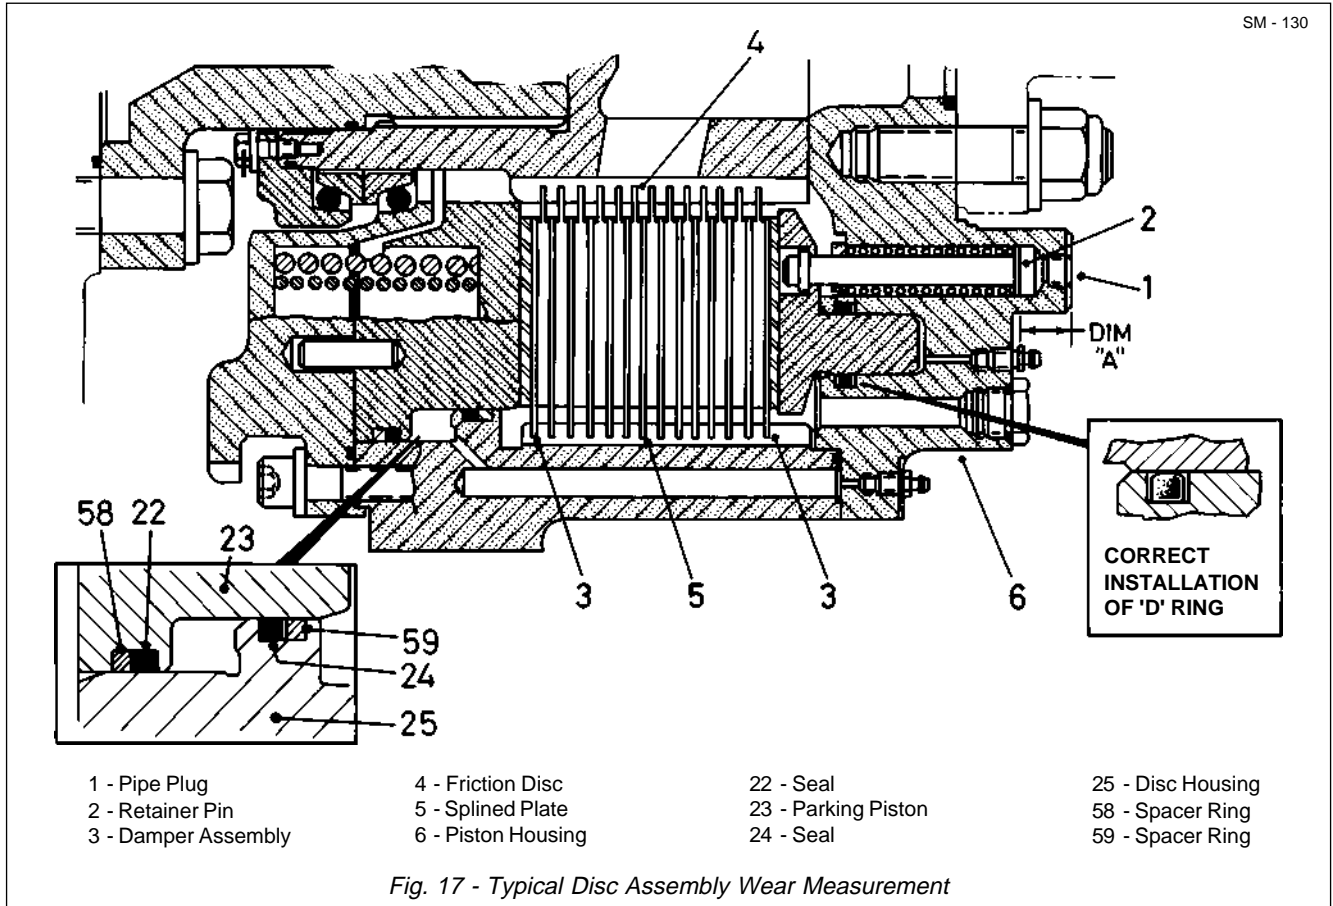

Fig. 17 - Typical Disc Assembly Wear Measurement
Numbers in parentheses refer to Fig. 17, unless otherwise specified.
4. Lubricate spacer ring (59) with 'Wynns S.T.P.' and install in disc housing (25) as shown in Fig. 17.
5. If removed, install dowels (19) in parking piston (23).
7. Lubricate spacer ring (58) with 'Wynns S.T.P.' and
install in parking piston (23) as shown in Fig. 17.
8. Lubricate disc housing seal (24) and area around the seal generously with 'Wynns S.T.P.'. Install parking piston (23) into disc housing (25).
9. Place spring housing (14) on parking piston (23) to align with dowel (19). Rotate spring housing (14) so that dowel (18) in disc housing (25) aligns with the hole in the spring housing. Seat parking piston (23) in disc housing with six bolts (12). Use care to prevent damage to seals (22 & 24). Remove bolts (12) and spring housing (14).
**Note:** Install 'D' section seals in piston housing assembly as shown in the section in Fig. 17.
28. Install service piston (31), with flat surface up, into piston housing assembly (41). Ensure three 14 mm (0.56 in) drilled holes in service piston are aligned with three 0.5 - 13 UNC threaded holes in the piston housing. Be careful to prevent damaging the two 'D' section seals in piston housing assembly. Install three 0.5 - 13 UNC bolts, with flat washers through service piston to piston housing and draw service piston down gradually by turning bolts alternately, one turn at a time.